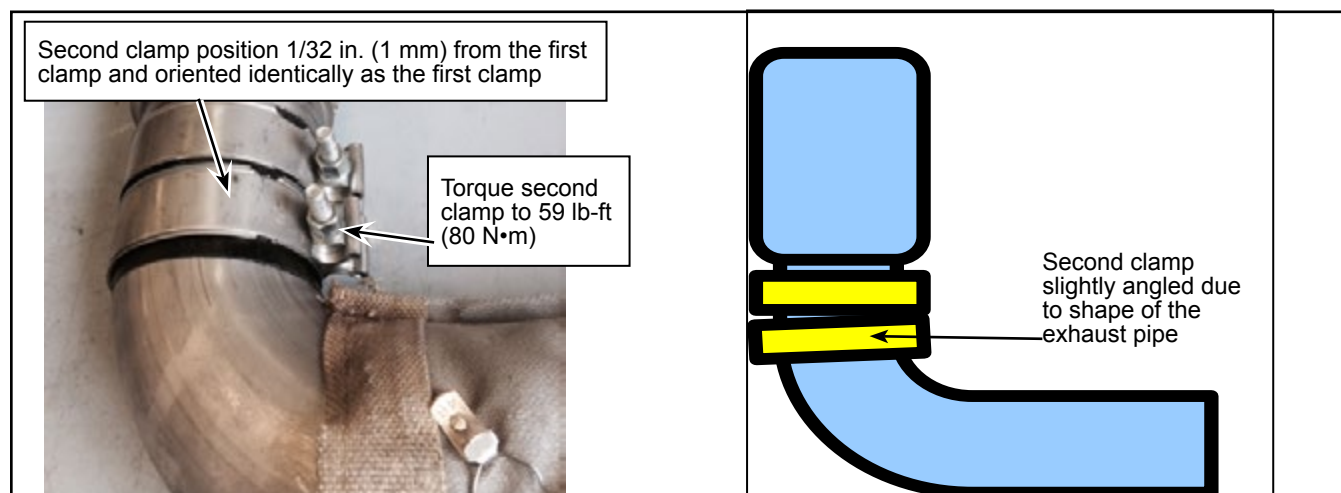

Figure 5 - Typical Position and Orientation of Second Clamp
- 1.12. Position the second clamp 1/32 in. (1 mm) from the other clamp. The orientation of the two clamps should be identical. See Figure 5 for torque value.